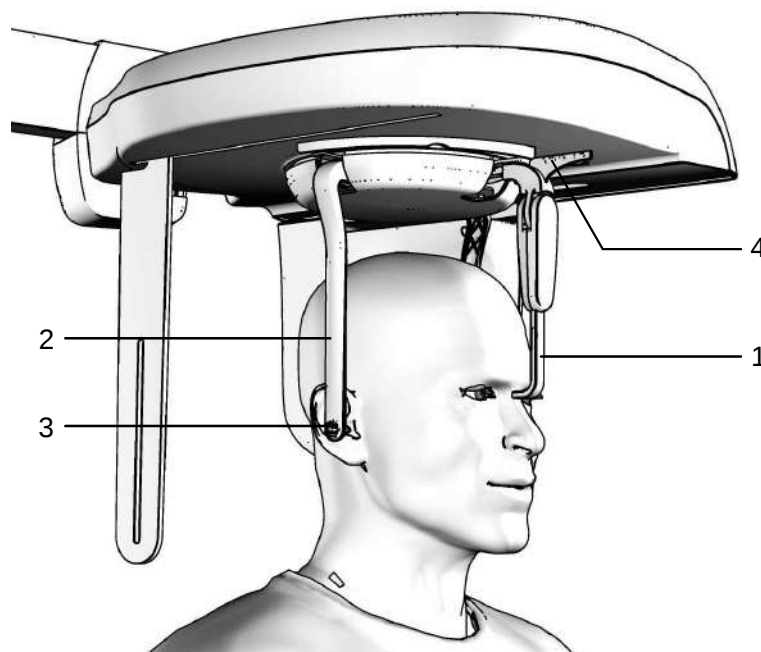

Figure 27
NOTE: It will be possible to modify manually kV, mA and Soft Tissue Filter position (mm). The "mm" value in the exposure parameters and parameter "fxx.x" in the display indicate the position of the STF; it has to be adjusted according to the value read on the graduate scale present on the nose rest (Figure 27).
3. Open the ear centring device (Figure 27) to its maximum span by using the upper part of the rods of the centring device itself. Move the nose rest (Figure 27) away outwardly to its maximum extension. Manually rotate the craniostat group according to the cephalometric projection to be made, moving the upper part of the ear centring device (Figure 27).
4. Position the patient upright near the auricular centring device. With the keys "Column movement" (15/16) lift/lower, the column till the centring pins (Figure 27) are close to the ear to clasp the patient's head so that the pivots penetrate the ear (Figure 27) moving the upper part of the rods. If a Latero-Lateral examination is performed, position the nose rest.